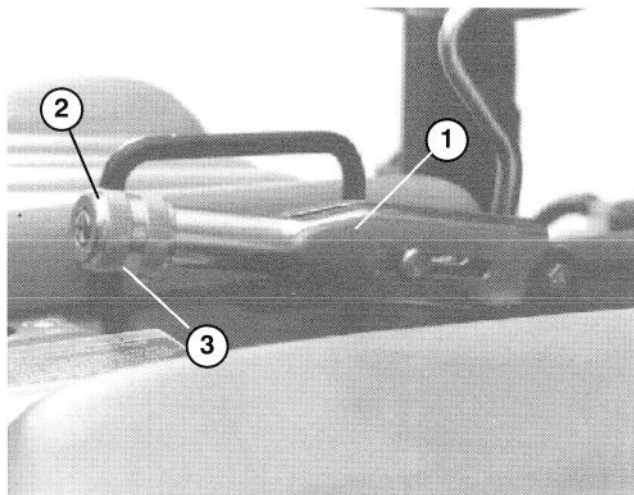

**Figure 43**
7. Recheck clutch safety switch adjustment (Fig. 43). Engine must not crank unless clutch pedal is  $.90" \pm .12"$  from floor. If an adjustment is required, loosen switch jam nuts and adjust up or down.